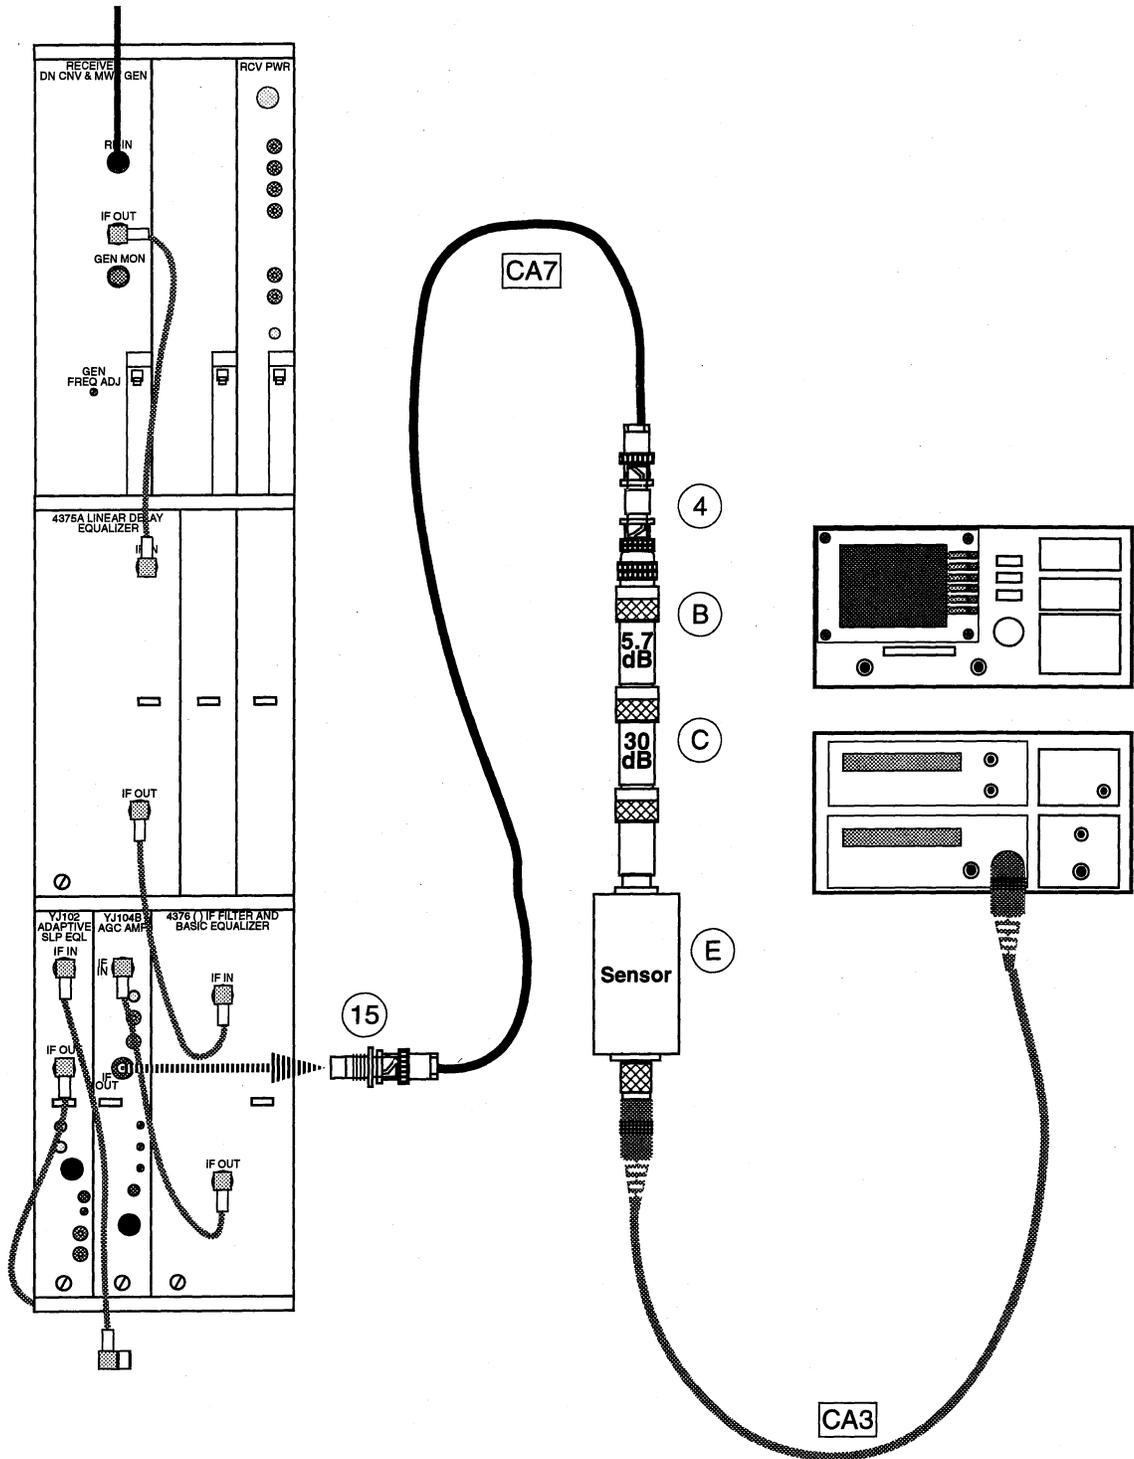

Figure 13. IF AGC Amplifier IF OUT Level (Non-DIV)
- c. Connect the power meter to the IF OUT jack as shown in Figure 13.